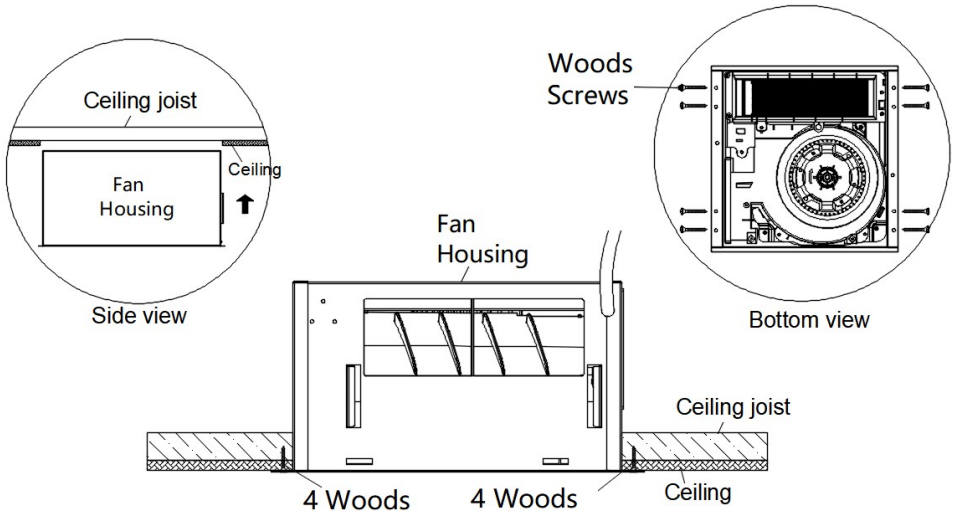

Fig.4.
5. Push the fan housing into the ceiling hole and secure it with 8 wooden screws (locked through two layers of ceiling). (See the Fig.4.)